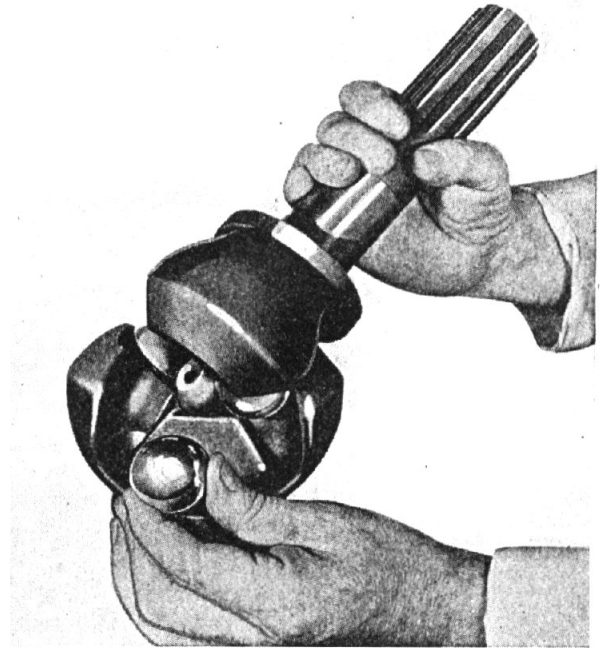

FIG. 7—ASSEMBLING UNIVERSAL JOINT BALLS
5. Turn the center ball until the groove in it lines up with the raceway for the remaining ball as shown in Fig. 7. Slip the ball into the raceway and straighten up the wheel end of the shaft.